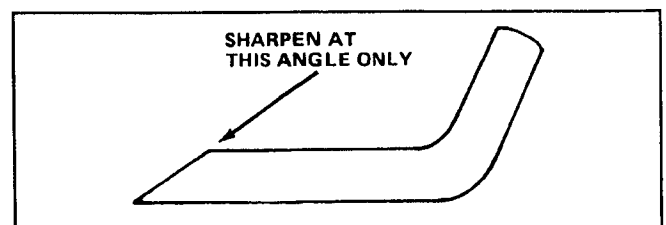

Figure 20
6. **SHARPENING BLADE**—Using a file, sharpen top side of blade (side facing top of mower housing) and maintain original cutting angle (Fig. 20). The blade remains balanced if the same amount of material is removed from both cutting edges.